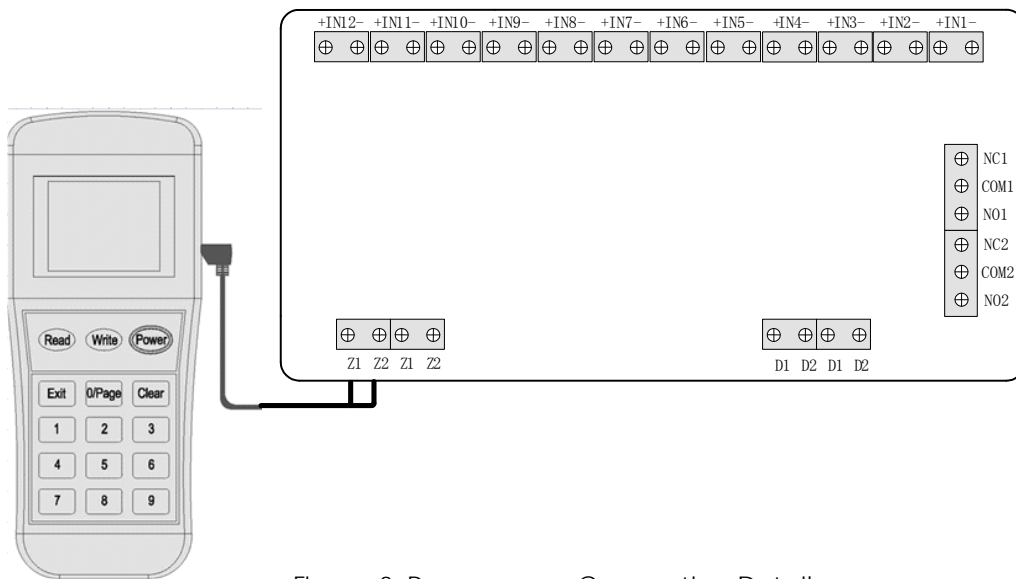

Figure 3: Programmer Connection Details
1. Connect the programming cable to Z1 and Z2 terminals (Figure 3). Press **"Power"** to switch on the unit.
2. Connect the programming cable to Z1 and Z2 terminals (Figure 3). Press **"Power"** to switch-on the unit.